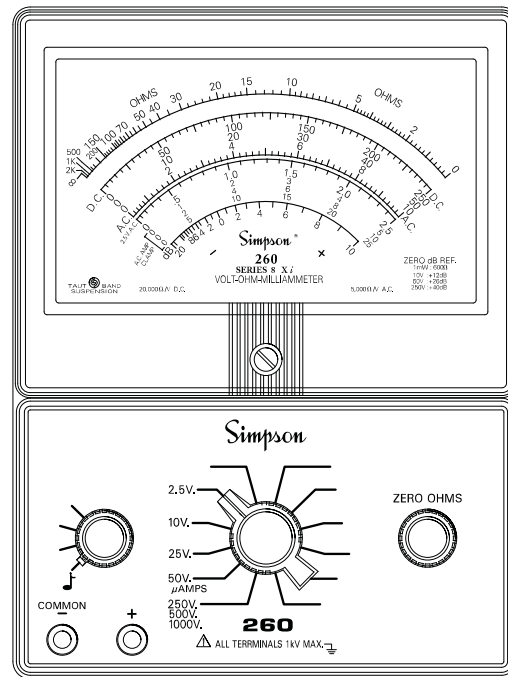

Figure 4-13. Jacks and Switch Positions for Continuity Tests
- Set the FUNCTION switch to the "Ω" . Insert the black test lead into the COMMON (-) and the red test lead into the (+) jacks, (Figure 4-13).